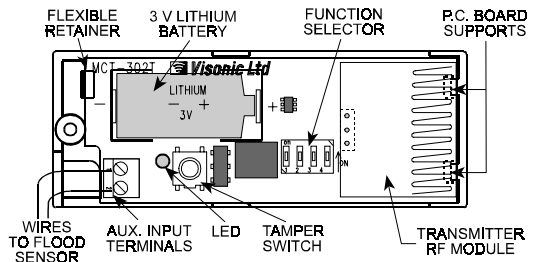

Figure 7. P.C. Board
- I. Clamp the two wires of the flood sensor cable into the auxiliary input terminals, as shown in Figure 7 (the wires can be inserted in any order).